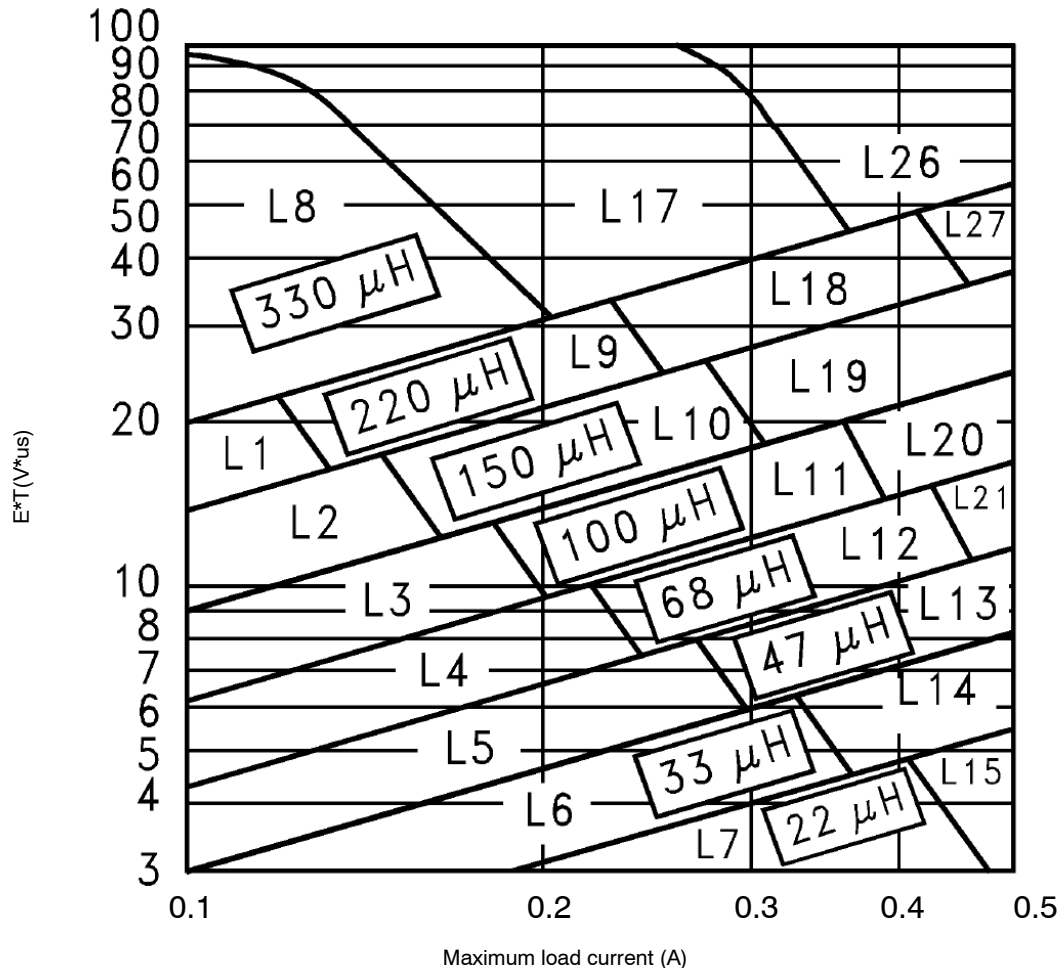

Figure 19. Inductor Value Selection Guides (For Continuous Mode Operation)
4. Inductor Selection (L1) A. Use the following formula to calculate the inductor Volt x microsecond [V x μs] constant: $E \times T = (V_{IN} - V_{OUT} - V_{SAT}) \times \frac{V_{OUT} + V_D}{V_{IN} - V_{SAT} + V_D} \times \frac{1000}{150 \text{ kHz}} (V \times \mu s)$ B. Match the calculated E x T value with the corresponding number on the vertical axis of the Inductor Value Selection Guide shown in Figure 19. This E x T constant is a measure of the energy handling capability of an inductor and is dependent upon the type of core, the core area, the number of turns, and the duty cycle. C. Next step is to identify the inductance region intersected by the E x T value and the maximum load current value on the horizontal axis shown in Figure 19. D. Select an appropriate inductor from Table 3. The inductor chosen must be rated for a switching frequency of 150 kHz and for a current rating of $1.15 \times I_{Load}$. The inductor current rating can also be determined by calculating the inductor peak current: $I_{p(max)} = I_{Load(max)} + \frac{(V_{in} - V_{out}) t_{on}}{2L}$ where t_{on} is the "on" time of the power switch and $t_{on} = \frac{V_{out}}{V_{in}} \times \frac{1.0}{f_{osc}}$	4. Inductor Selection (L1) A. Calculate E x T [V x μs] constant: $E \times T = (12 - 5 - 1.0) \times \frac{5 + 0.5}{12 - 1 + 0.5} \times \frac{1000}{150 \text{ kHz}} (V \times \mu s)$ $E \times T = (6) \times \frac{5.5}{11.5} \times 6.7 (V \times \mu s)$ B. E x T = 19.2 [V x μs] C. $I_{Load(max)} = 0.5 \text{ A}$ Inductance Region = L20 D. Proper inductor value = 100 μH Choose the inductor from Table 3.
To simplify the inductor selection process, an inductor selection guide for the LM2594 regulator was added to this data sheet (Figure 19). This guide assumes that the regulator is operating in the continuous mode, and selects an inductor that will allow a peak-to-peak inductor ripple current to be a certain percentage of the maximum design load current. This percentage is allowed to change as different design load currents are selected. For light loads (less than approximately 300 mA) it may be desirable to operate the regulator in the discontinuous mode, because the inductor value and size can be kept relatively low. Consequently, the percentage of inductor peak-to-peak current increases. This discontinuous mode of operation is perfectly acceptable for this type of switching converter. Any buck regulator will be forced to enter discontinuous mode if the load current is light enough.